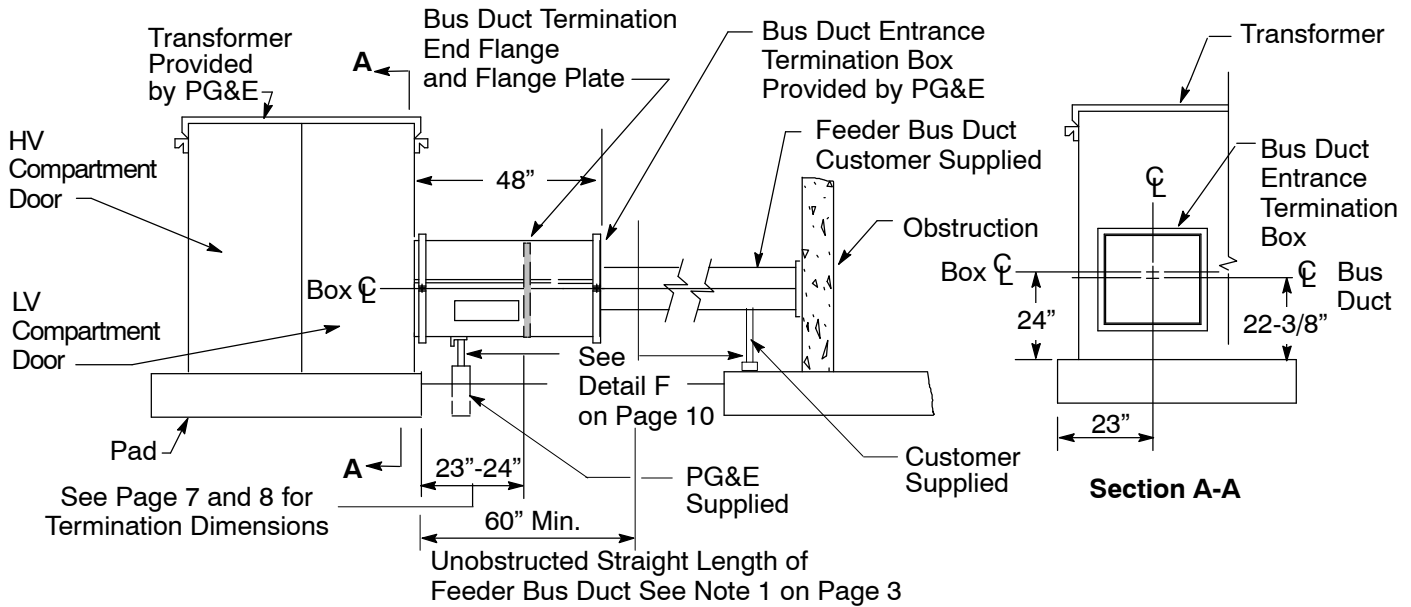
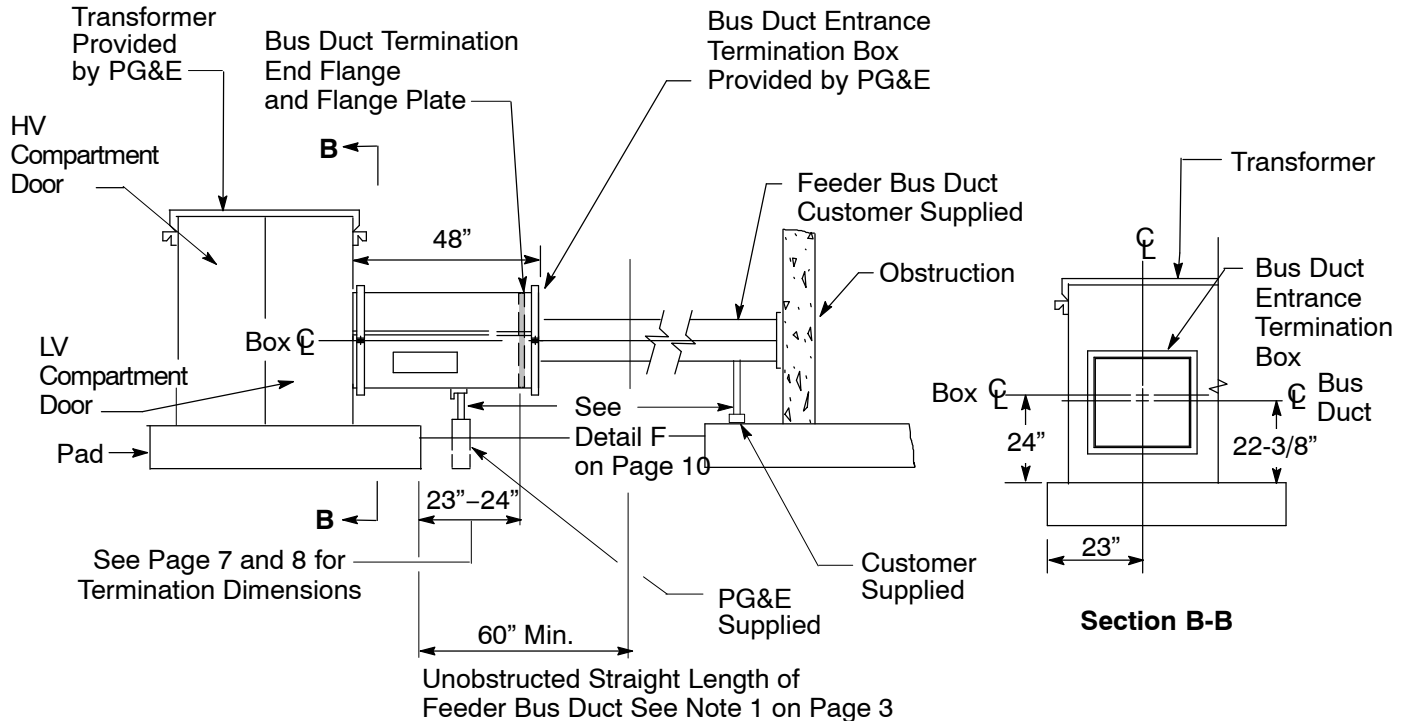

Figure 1
Figure 2
1. Method of installation (see Figure 1 on Page 4) - The location of the edge of the pad must first be established by consultation between PG&E and the building architect or contractor. The bus duct termination end flange and flange plate shall be located such as to permit its connection to the bus duct entrance termination box at a point 23 inches to 24 inches from the edge of the pad. The vertical centerline of the bus duct entrance termination box shall be located 23 inches from the front edge of the transformer pad (see Figure 1, Section A-A and Figure 2, Section B-B on Page 4). Additionally, there must be a minimum of 60 inches straight length between the edge of the pad and any obstruction (joint, bend, support, apparatus, wall or building, etc) in the bus duct to accommodate the 48" long bus duct entrance termination box provided by PG&E.
5. Feeder bus duct and entrance box supports - Feeder bus duct supports (where necessary) are required to be installed by the customer. The entrance box shall not be used as a bus duct support. PG&E will provide and install a support (supports are not part of a kit) for the bus duct entrance termination box, as shown in Figure 1 and Figure 2 on Page 4, and Detail F on Page 10.